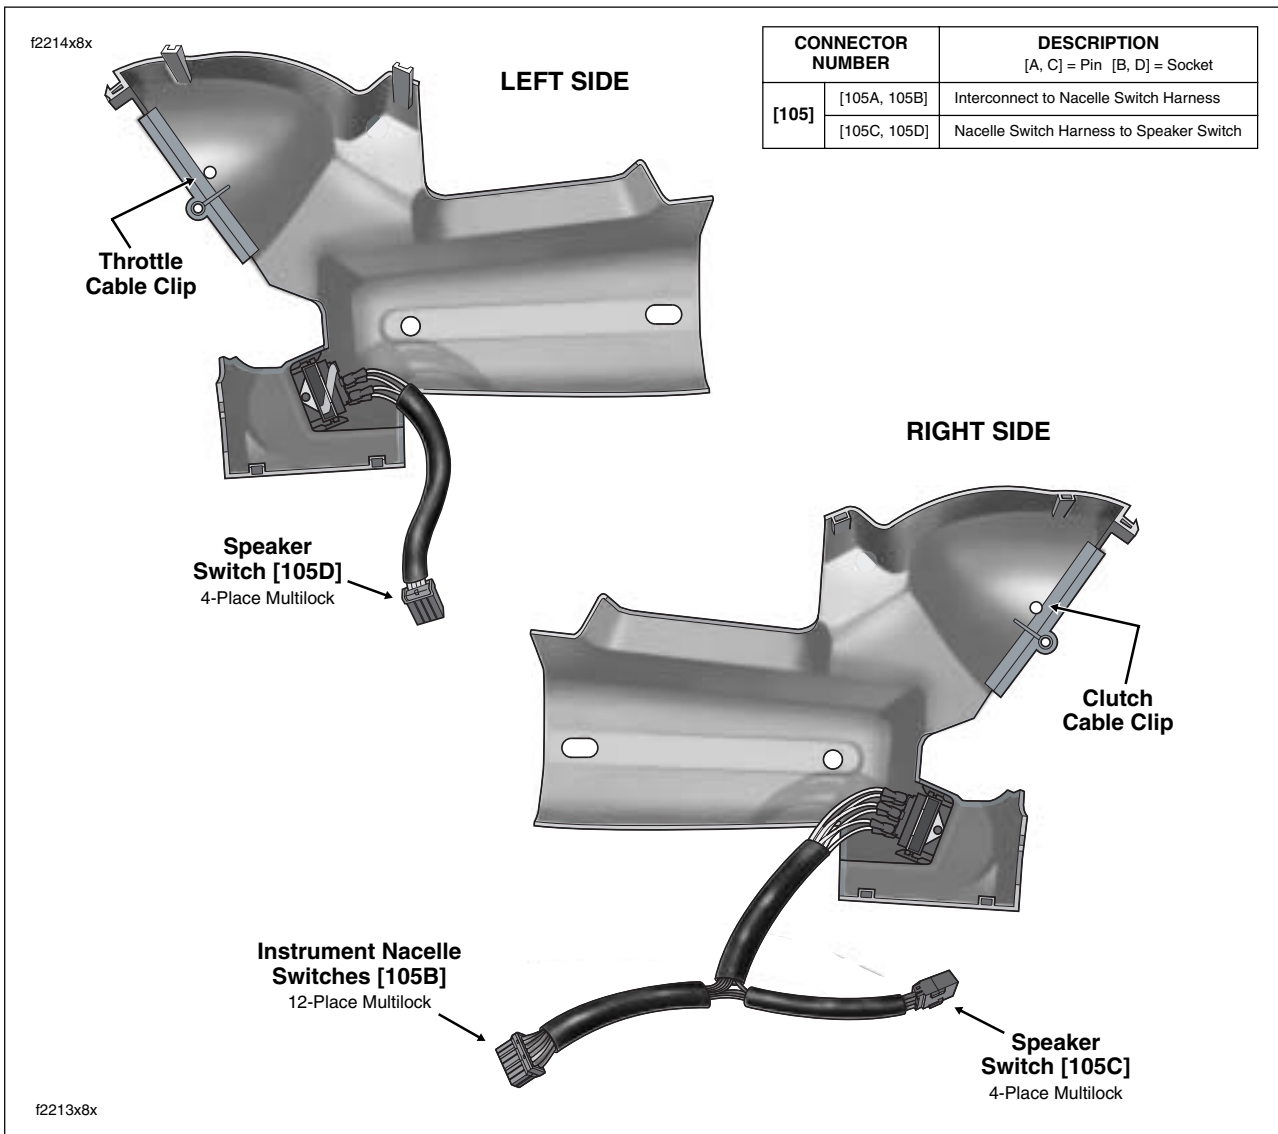

Figure 8-82. Instrument Nacelle Halves
- d. Unthread rubber boot from odometer reset switch, and while carefully removing left side instrument nacelle from motorcycle, pull odometer reset switch from hole. Move left side of nacelle to bench area leaving right side on motorcycle. See Figure 8-82.
- d. Using a T40 TORX drive head, remove two bolts (with flat washers) to release right side of instrument nacelle from fork side. Move right side of nacelle to bench area leaving left side on motorcycle. See Figure 8-82.